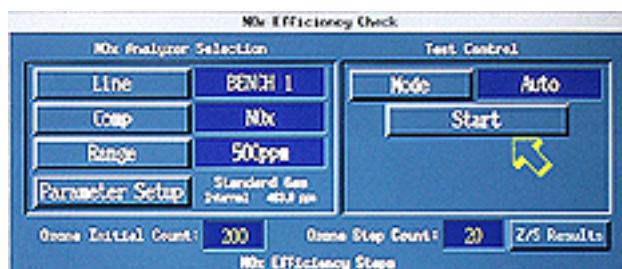

Figure 29
- 136 Under “Test Control,” click on the “Start” button. See the arrow in Figure 29